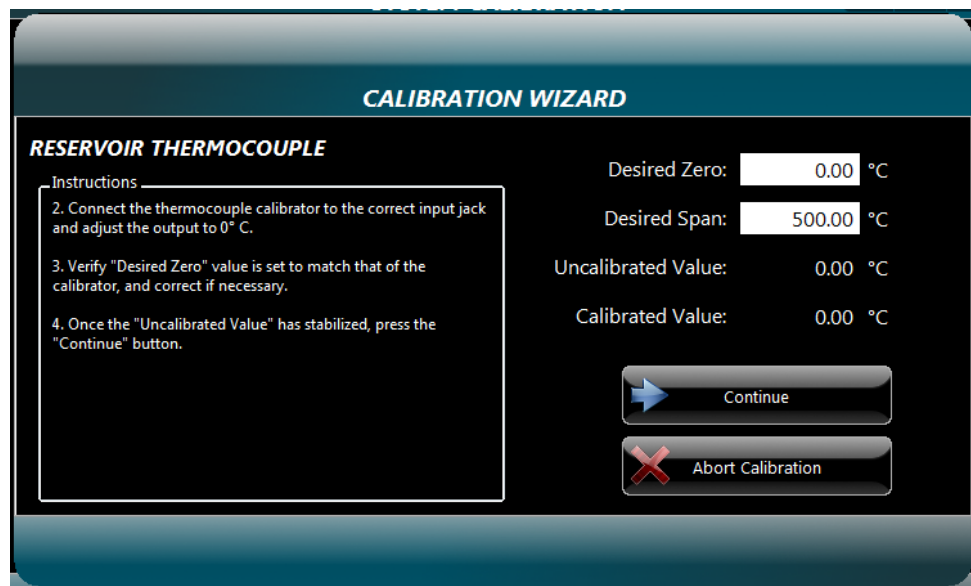

Figure 78 – Thermocouple Calibration Wizard display
4. Verify 'Desired Zero' value is set to match that of the calibrator and correct if necessary (figure 78).